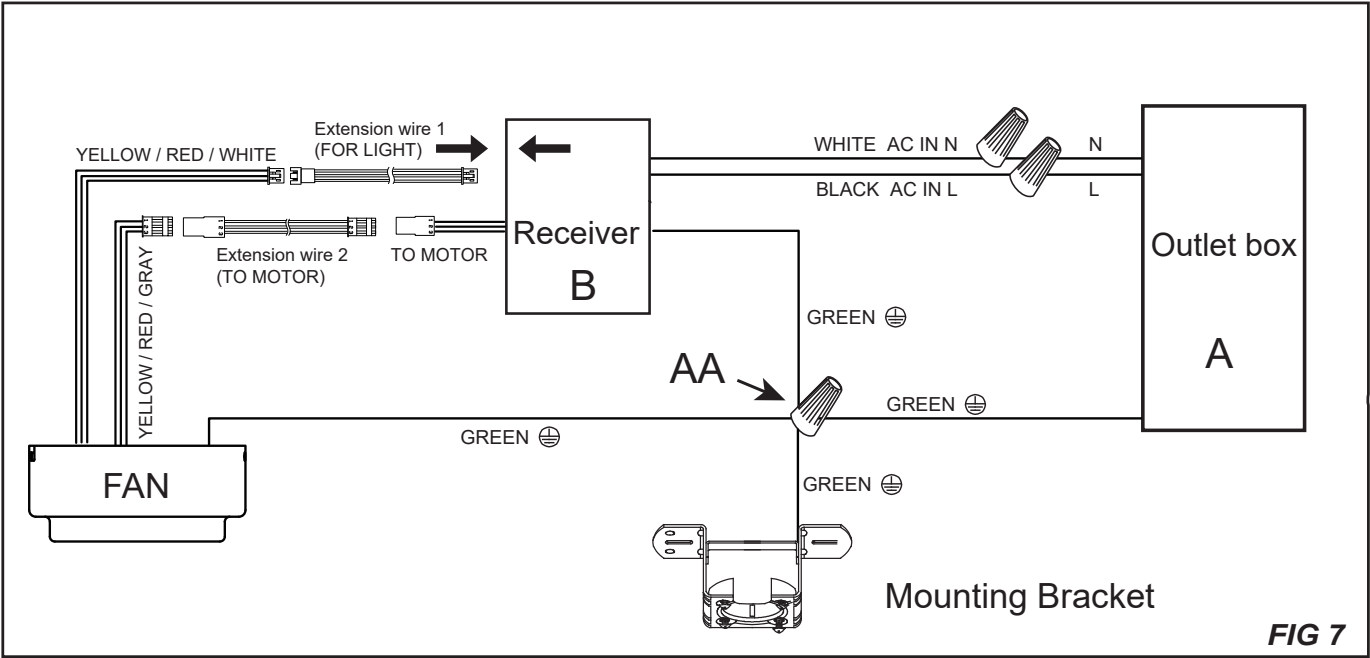

FIG 7
Step 7. Making the electrical connections (see figure 7)
1. Motor to Receiver & Receiver to house supply wires (see figure 7)
- Connect the ground wire (green) from the fan, the ground wire (green) from the receiver (B) and the ground wire (green) from the mounting bracket to the ground wire (green) from the in outlet box(A).